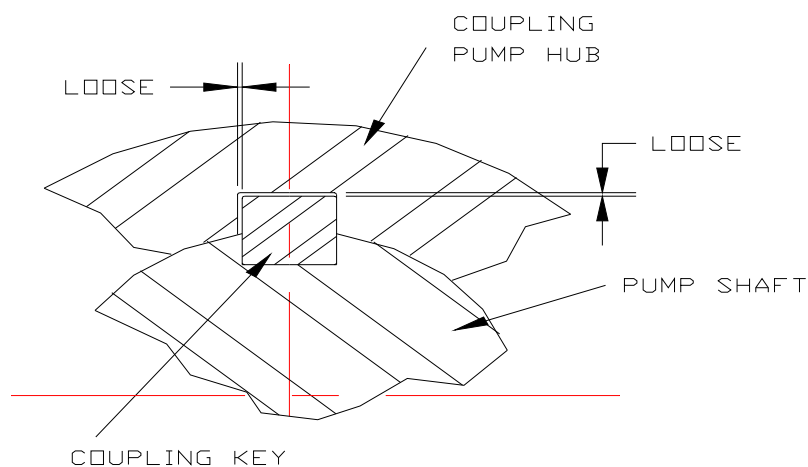

Figure 5
3.1.23.3 Install thrust ring assembly and coupling key. The key should fit snugly into the shaft, but must be loose in the coupling hub. Refer to Figure 5. Do not fit key to coupling hub. Break corners on key 1/32”.